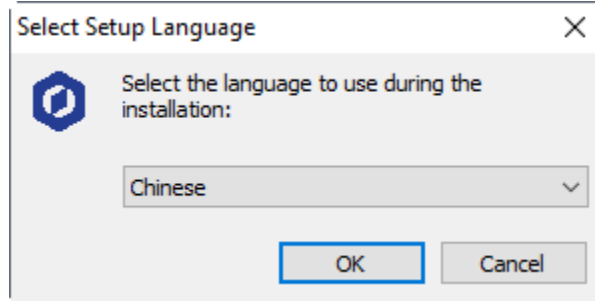

Figure 2.3 The Select Setup Language dialog box
- Step 2** In the installation directory double-click **DobotStudioSetup.exe**. The **Select Setup Language** dialog box is displayed, as shown in Figure 2.3.